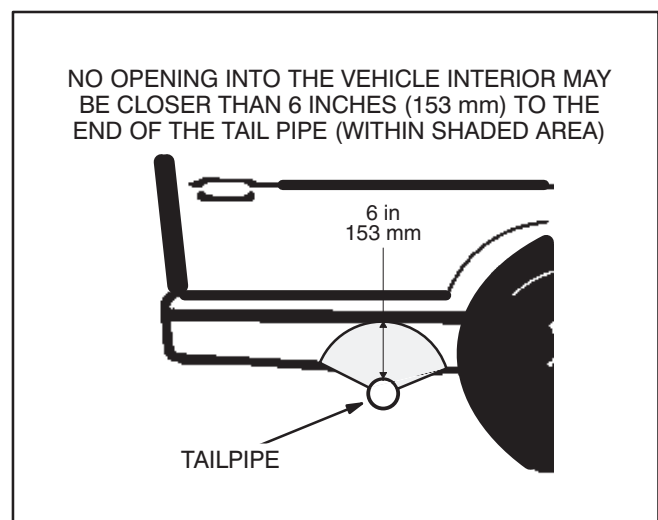
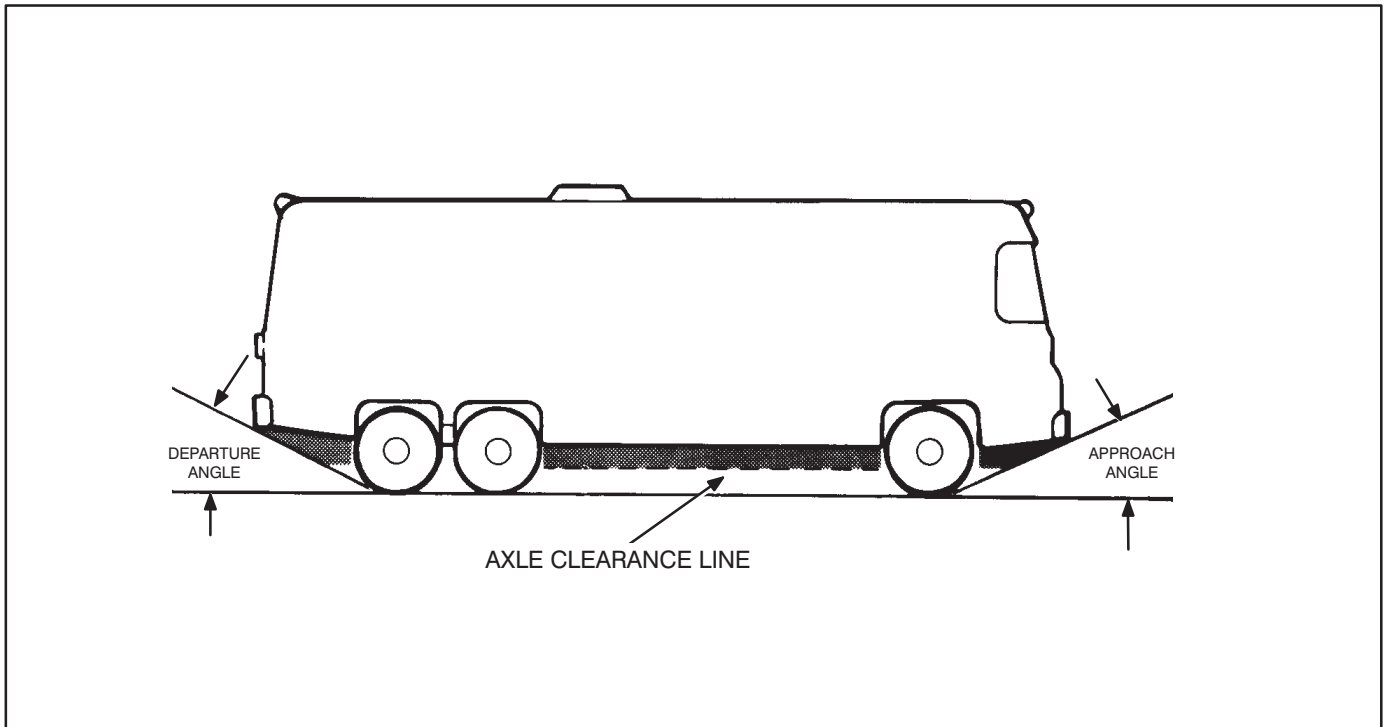

FIGURE 11. MINIMUM DISTANCES TO OPENINGS
FIGURE 12. APPROACH AND DEPARTURE ANGLES AND AXLE CLEARANCE LINE
⚠WARNING ***EXHAUST GAS IS DEADLY! To keep exhaust gases from entering the vehicle do not terminate the exhaust tailpipe underneath the vehicle or closer than specified to openings into the vehicle (Figure 11) or route it such that it is likely to be damaged (Figure 12). Use approved materials and parts only.***
9. Do not terminate the tailpipe such that it is closer than 6 inches (153 mm) to any opening into the vehicle interior (door, window, vent). See Figure 11.
10. Route the tailpipe such that it will not likely be struck when the vehicle is moving. At least keep it out of the approach and departure angles of the vehicle and above the axle clearance line (Figure 12).